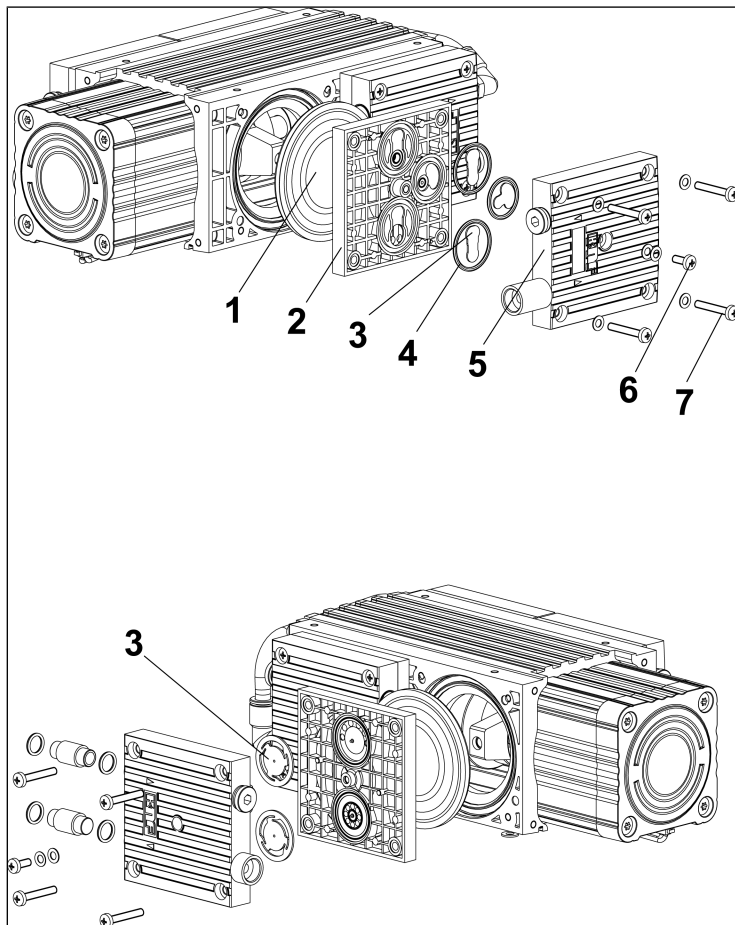

Fig.9: Exploded view
\*\*see Fig. 9
- Loosen the outer 8 fastening screws (7/Fig. 9) of the heads (1 and 2) and remove the heads (1 and 2).
4. Place heads 1 and 2 on the compressor housing and cross-tighten the fastening screws (7/Fig. 9) hand-tight (tightening torque: 3.5 Nm).